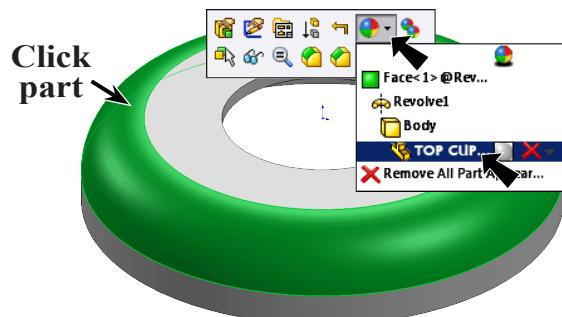

Fig. 15
Step 1. Click the part and click **Appearance Callout** [  ] on the Context toolbar, then click **TOP CUP...**  , Fig. 15.